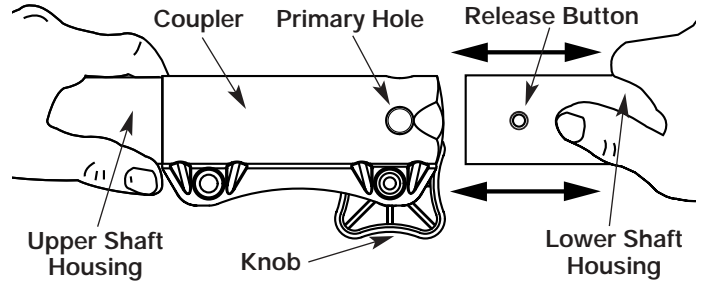

Fig. 8
3. While firmly holding the upper shaft housing, pull the tree pruner attachment out of the coupler (Fig. 8).
2. While firmly holding the add-on, push it straight into the coupler (Fig. 8).
CAUTION: Lock the release button in the primary hole (Fig. 8) and securely tighten the knob before operating this unit.